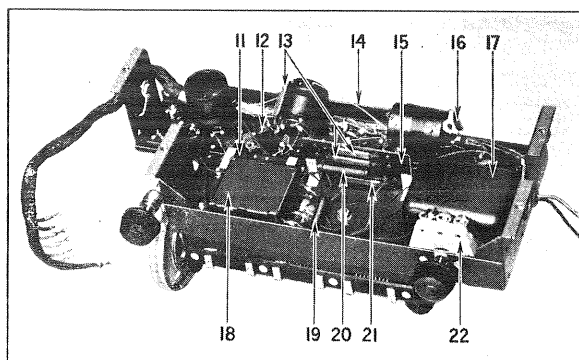

Fig. 3—Bottom View of Radiola
4	Open primary first audio transformer, open resistor 19, shorted condenser 18, Fig. 3, or broken wire. In 7-26—break in wiring to transfer switch, poor contact in
- Shorted Condenser 18, Fig. 3.